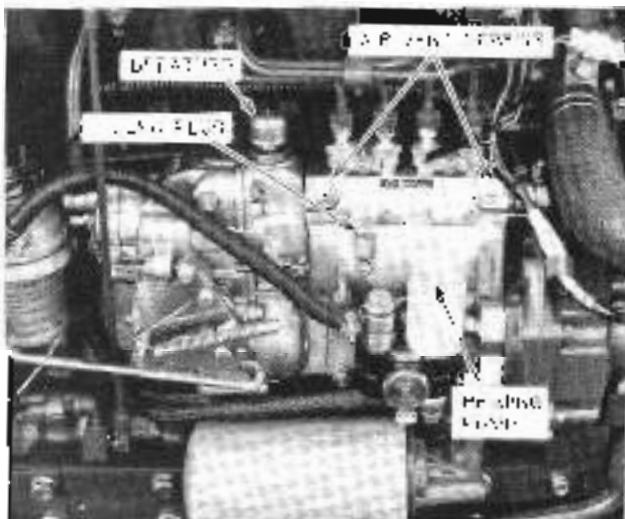

Figure 38 - Fuel Injection Pump
Check the fuel pump assembly every 200 hours or every 100 miles. (Figure 38)
3. Connect the air vent pipe to the air vent screw, Figure 38, at least one-half inch away from the screw. Then tighten the screws.